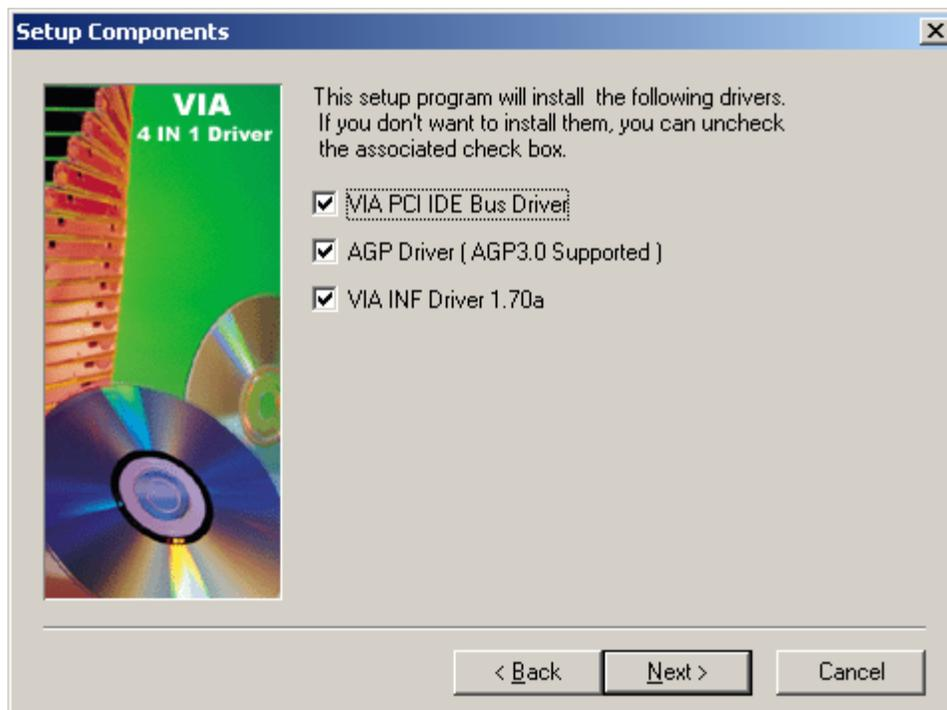

Figure 6-7: Driver Selection
Step 8: The setup then prompts the user (see **Figure 6-7**) to select the drivers that must be installed on the system. There are three drivers: